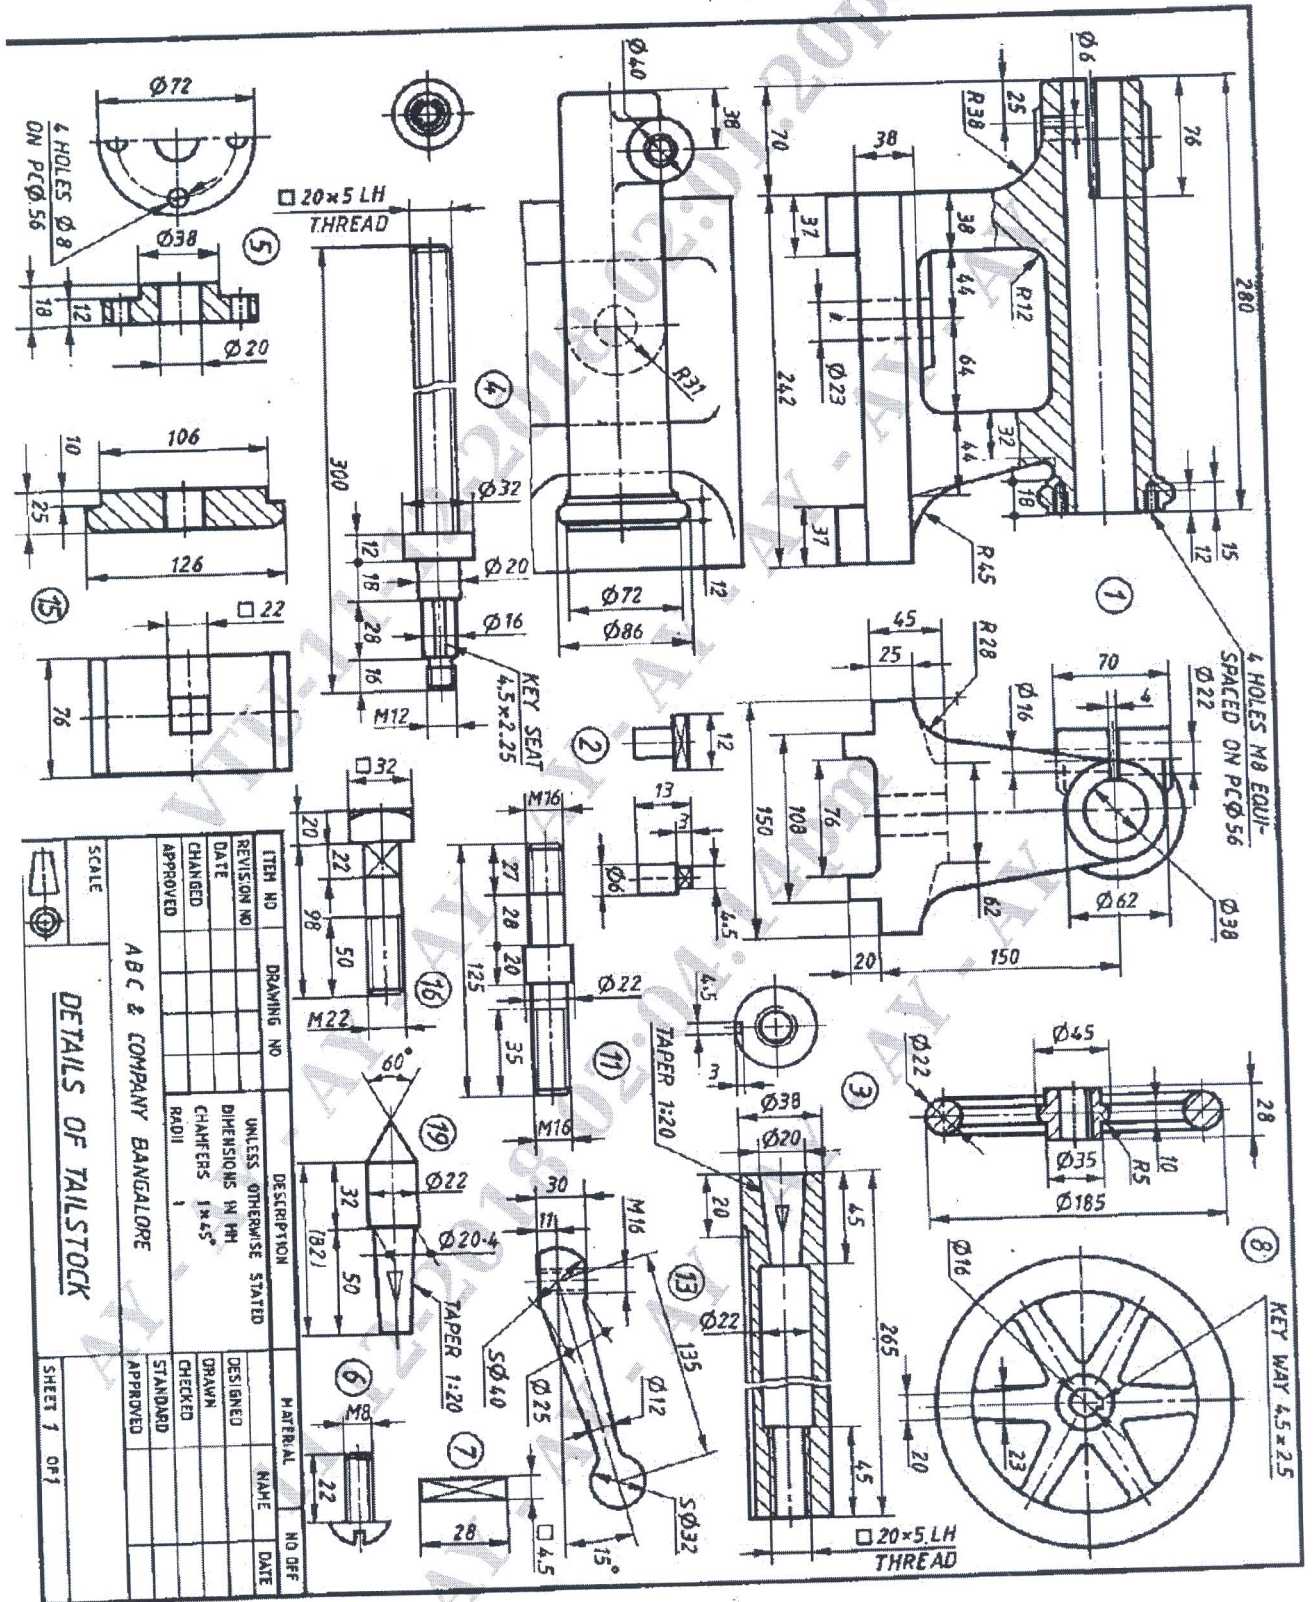

Figure 3 : details of a "tail-stock"
Q.No.6 Figure 3 shows the part drawing of a "TAIL-STOCK". Assemble the Parts and show the following views.